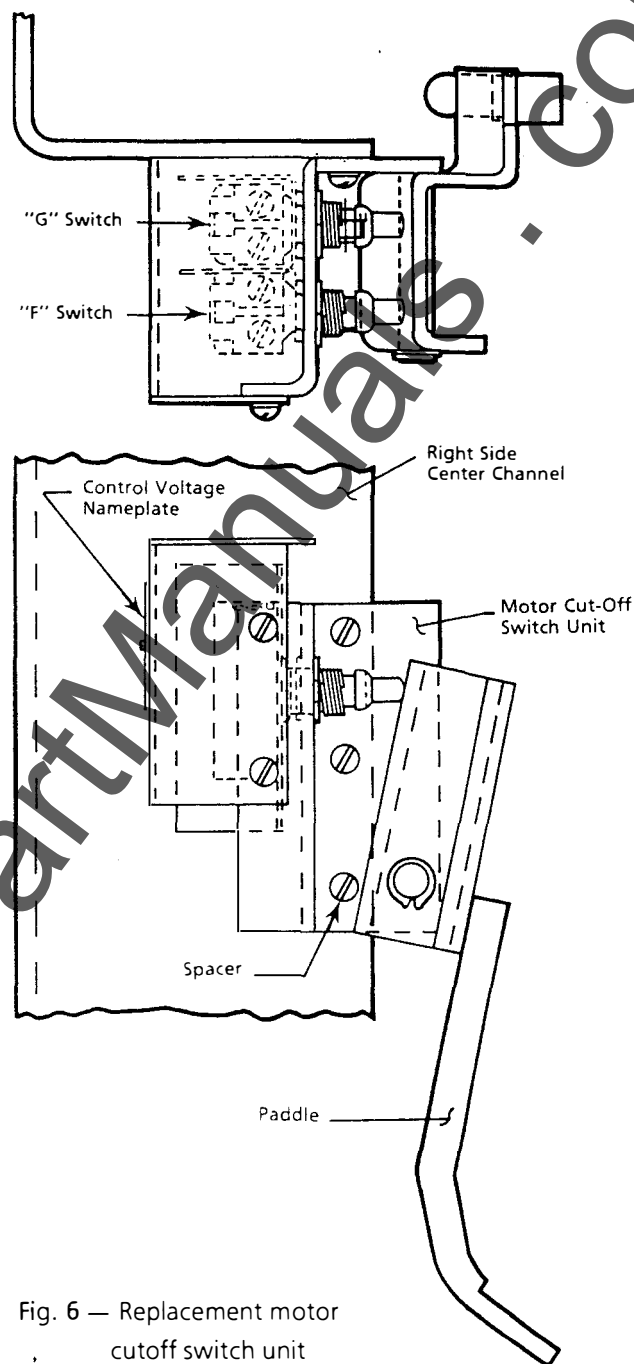

Fig. 6 — Replacement motor cutoff switch unit
2. Install the new motor cut-off switch unit using the old unit's mounting holes in the center channel. New hardware is provided. The spacer is part of the lower hole hardware. Refer to Fig. 6. Install the original control voltage nameplate to the cover of the new cut off switch unit.
10. When the control voltage is applied to your breaker, the motor operator will be energized and charge the closing spring. The G switch (see Fig. 6) of the motor cut off switch unit will stop the motor operator just before the roller engages with the prop. The breaker may be closed manually by depressing the spring discharge lever or electrically by energizing the closing solenoid.